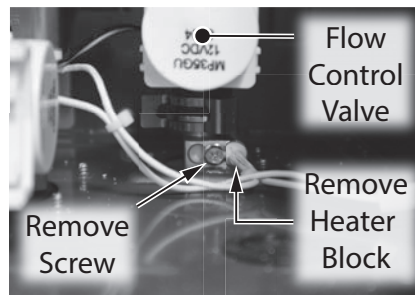

Figure 34 - Remove flow control heater block
- 13** Locate the screw securing the heater block inside the flow control valve as shown in Figure 34. Use a 12" Phillips screwdriver (magnetized) to remove screw. Place screw aside in a safe place for reinstallation. Remove heater block from flow control valve.